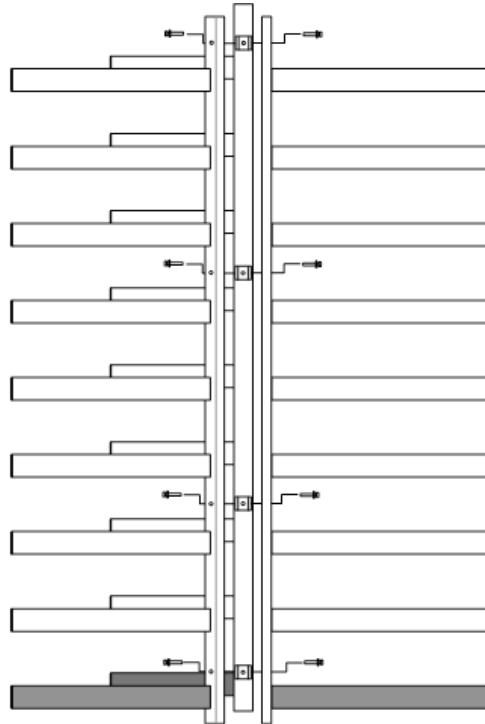

Figure ST-24 Assemble Spindle Arm Sections
- Assemble the 3 Spindle Arm Assemblies together as shown in Figure ST-24 below. Do the assembly close to the installation but not underneath it.